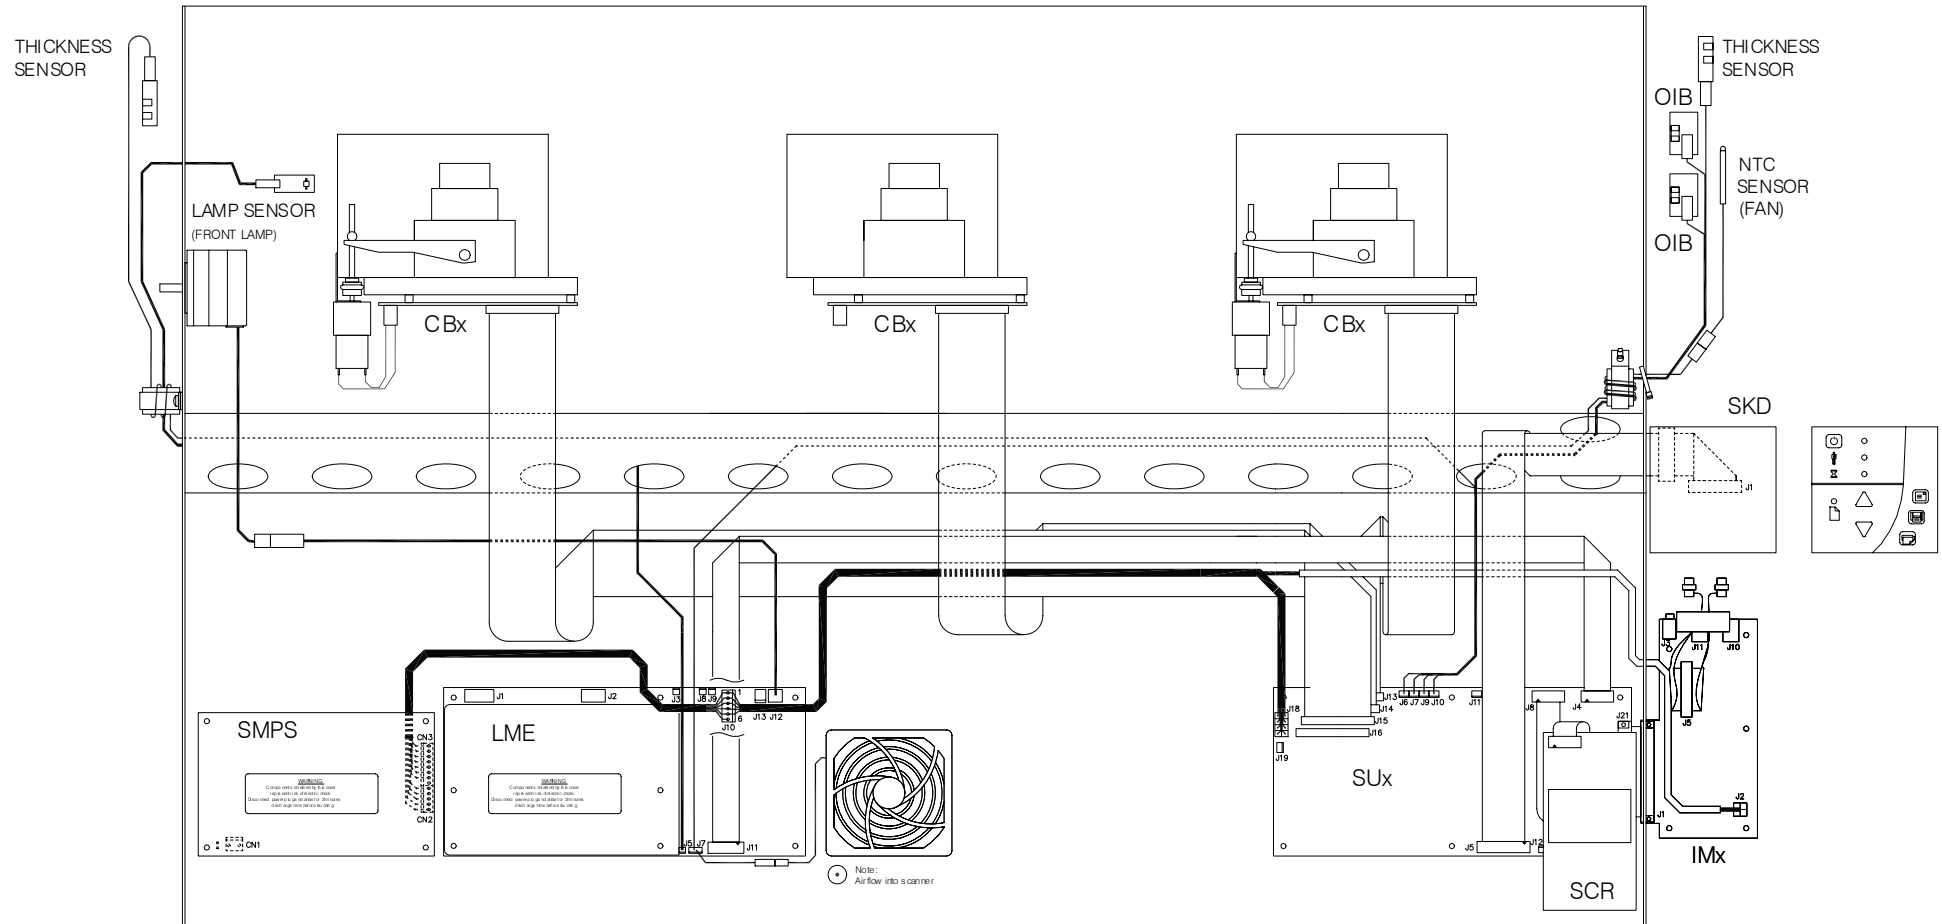

Fig. 11-10 CHROMA Tx 40, CRYSTAL Tx 40, Secondary Wiring
- Fig. 11-10 CHROMA Tx 40, CRYSTAL Tx 40, Secondary Wiring, page 188